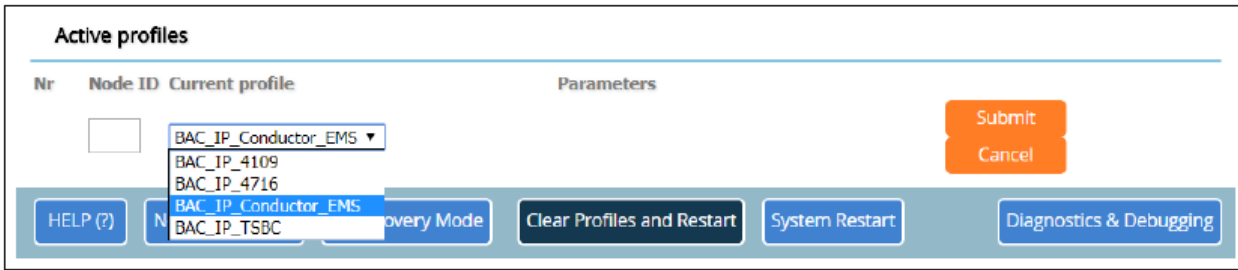

Figure 13: Web Configurator Showing Available Profiles for Selection
- To add an active profile to support a device, click the Add button under the Active Profiles heading. This will present a drop-down box underneath the Current profile column that lists all the available profiles. **(Figure 13)**